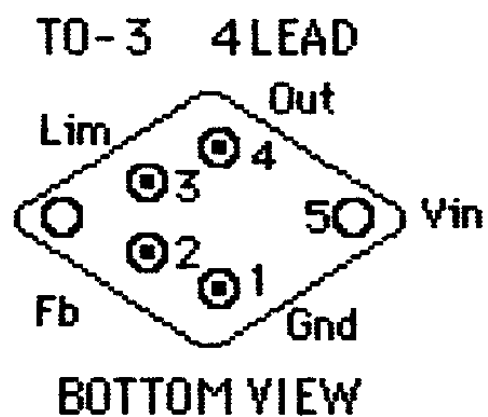

FIGURE 5
5.7 Terminal Connections: The terminal connections shall be as specified in **Figure 5**.